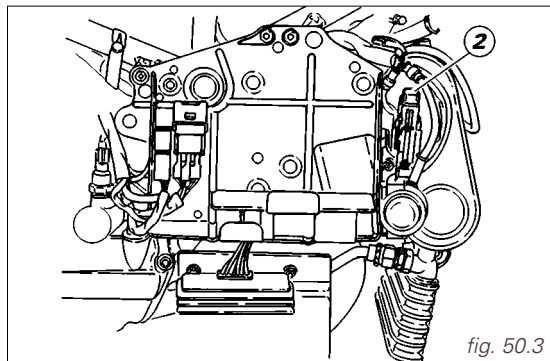

fig. 50.3
The fuse located on a side of the battery (fig. 50.3) protects the electronic regulator. Remove the fuse cap (2) to expose it.